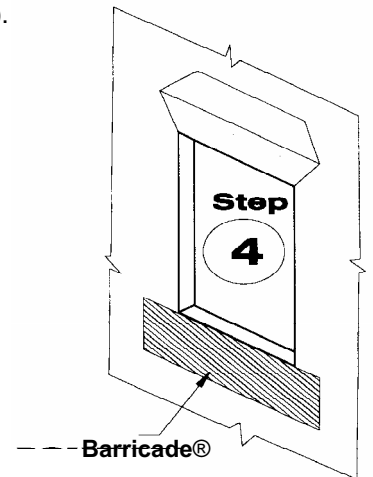

Figure 5 Apply sill flashing.
Step 4. Precut length of sill flashing to extend beyond rough opening on each side and beyond width of jamb flashings. Adhere Barricade® or Polyken® membrane over WRB across sill (see Figure 5).